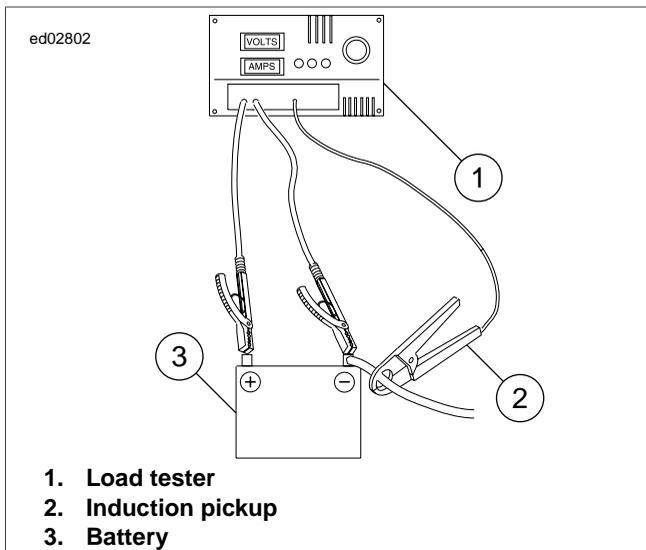

Figure 1-16. Check Current Draw (Ignition Switch On)
1. See Figure 1-16. To check for this condition, place load tester induction pickup or current probe pickup over battery negative cable.